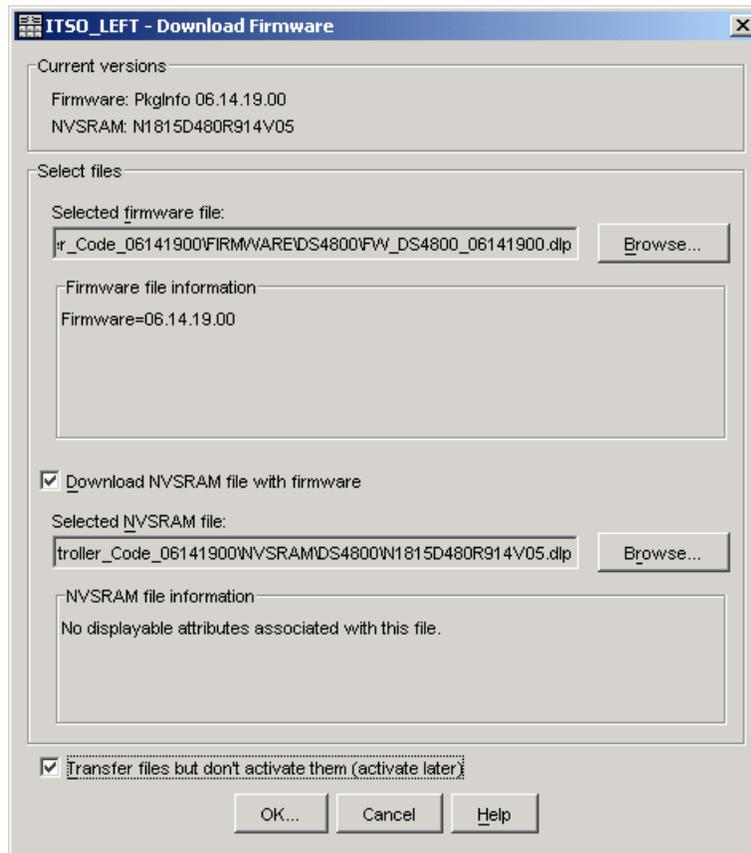

Figure 12-12 Download Firmware window
- The Download Firmware window opens showing the current firmware and NVSRAM versions. Select the correct firmware and NVSRAM files, as shown in Figure 12-12. Select the check box to download the NVSRAM file as well.